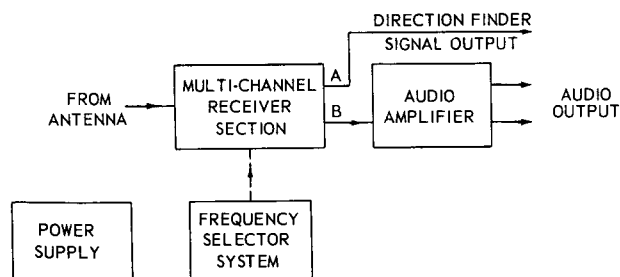

Figure 9-17.—Radio receiver R-278B/GR—major sections.
The receiver R278B/GR, figure 9-17 consists of four major sections: (1) a multi-channel receiver section, (2) a frequency selector system, (3) an audio amplifier section, and (4) a power supply.